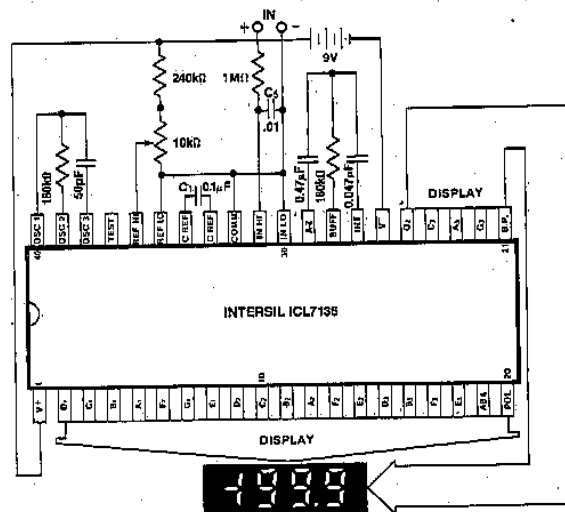

Figure 2. Clock Frequency 48kHz (3 readings/sec)
**Note 6:** 48kHz oscillator, Figure 2, increases current by 20 $\mu\text{A}$  (typ).